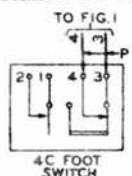

FIG. 1B
1.7 The buzzer and associated apparatus in Fig. 1B are provided when a buzzer operated on the P.B.X. battery is required.